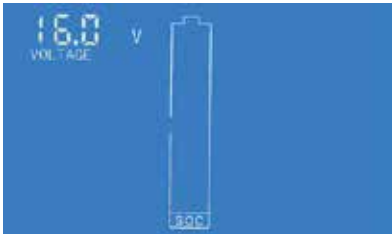

Figure 5: cut-off voltage setting interface(low bit) Figure 6: cut-off voltage setting interface(high bit)
- After you set the full voltage, loner press the button until LCD shows the interface of Fig. 5, then release the button;